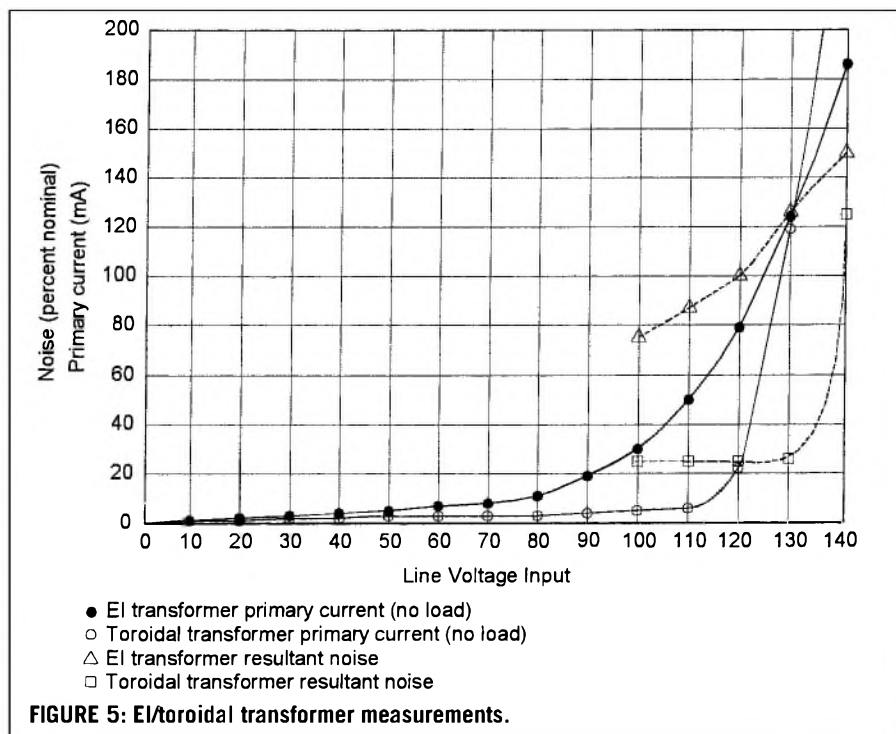

FIGURE 5: EI/toroidal transformer measurements.
*Always a skeptic, I performed an experiment to try and quantify this. As Per suggested, I measured the primary current (with no load on the secondary) of both the EI transformer and the toroidal transformer (Fig. 5) to try and see where the transformer cores saturate.*
*My results were not completely conclusive. It appears to me (again, referring to Fig. 5) that there is a correlation between where the core saturates and stray-flux induced noise with the EI transformer. The problem is that (at least in this transformer) the onset of saturation is so slow that over the operating range of the amplifier, it's almost linear.*